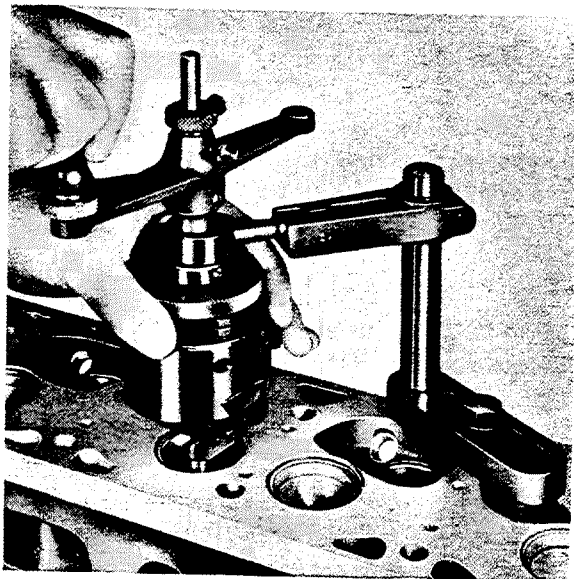

Fig. M 26a/2a
2. First back-off the valve seat (if required only), then rough mill and finish. The finishing operation can be carried out by means of conventional valve seat cutters, a valve seat turning tool or a valve seat grinding machine (Figs. M 26a/2 and 2a). Be careful to remove as little material as possible.